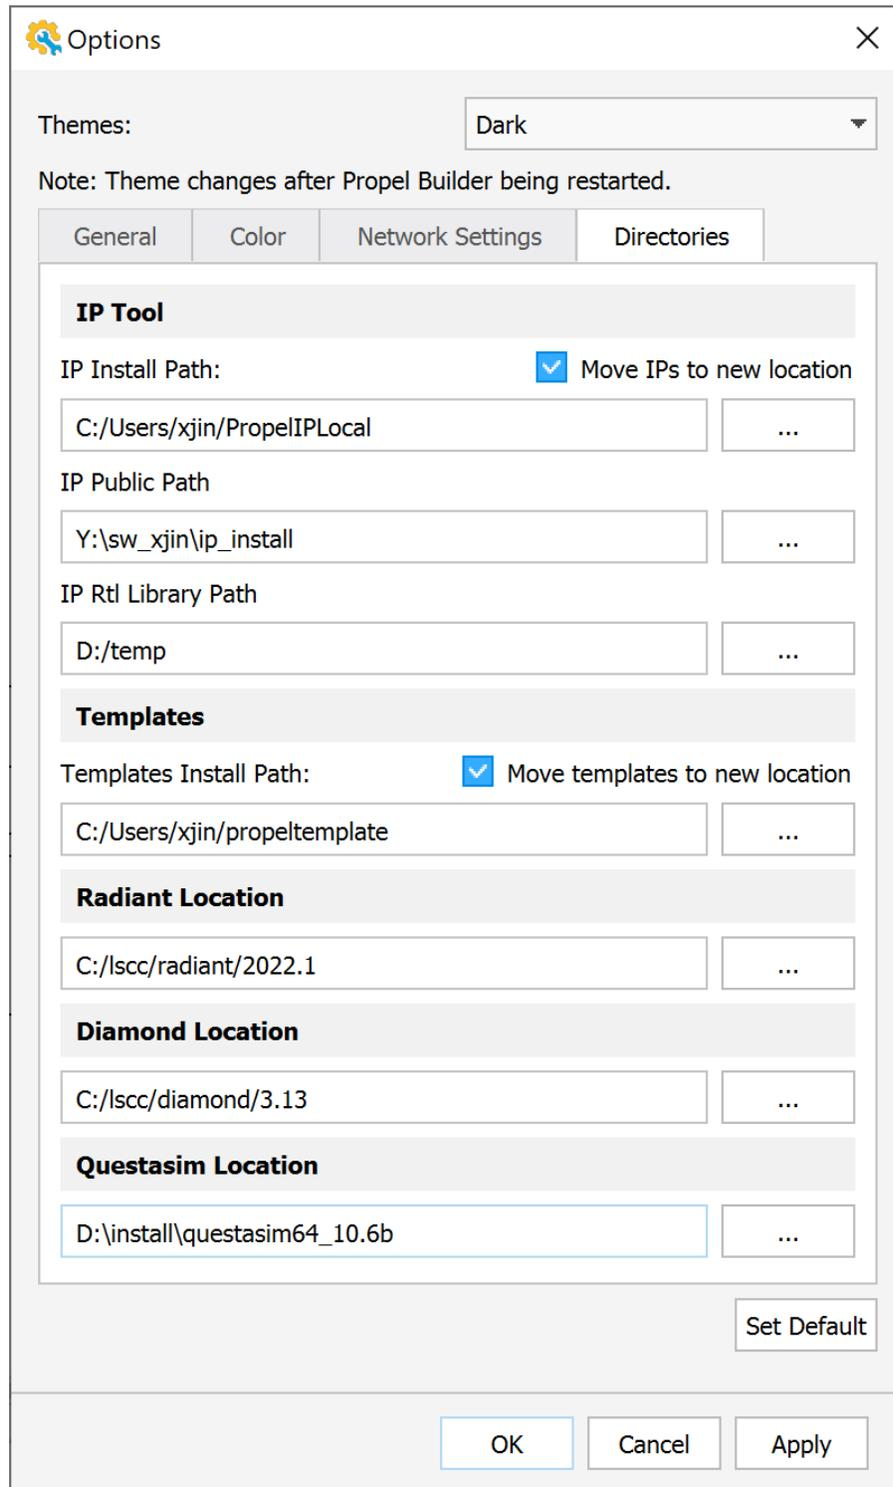

Figure 2.109. Directories
- Directories (Figure 2.109)
IP Tool (Figure 2.109):
- IP Installed Path (Figure 2.109): Folders of the IPs that are downloaded and installed. Refer to the Generating and Instantiating IP/Module section for more details.
- IP RTL Library (Figure 2.109): Folders of the IP RTL library. Refer to Lattice Propel 2024.1 IP Package User Guide \(FPGA-UG-02213\) for more details of the IP RTL Library.
Templates (Figure 2.109):
- Radiant Location (Figure 2.109): Folder where Radiant software installed.
- Diamond Location (Figure 2.109): Folder where Diamond software installed.
- Questasim Location (Figure 2.109): Folder where Questasim software installed (see Launching Simulation section for more information).